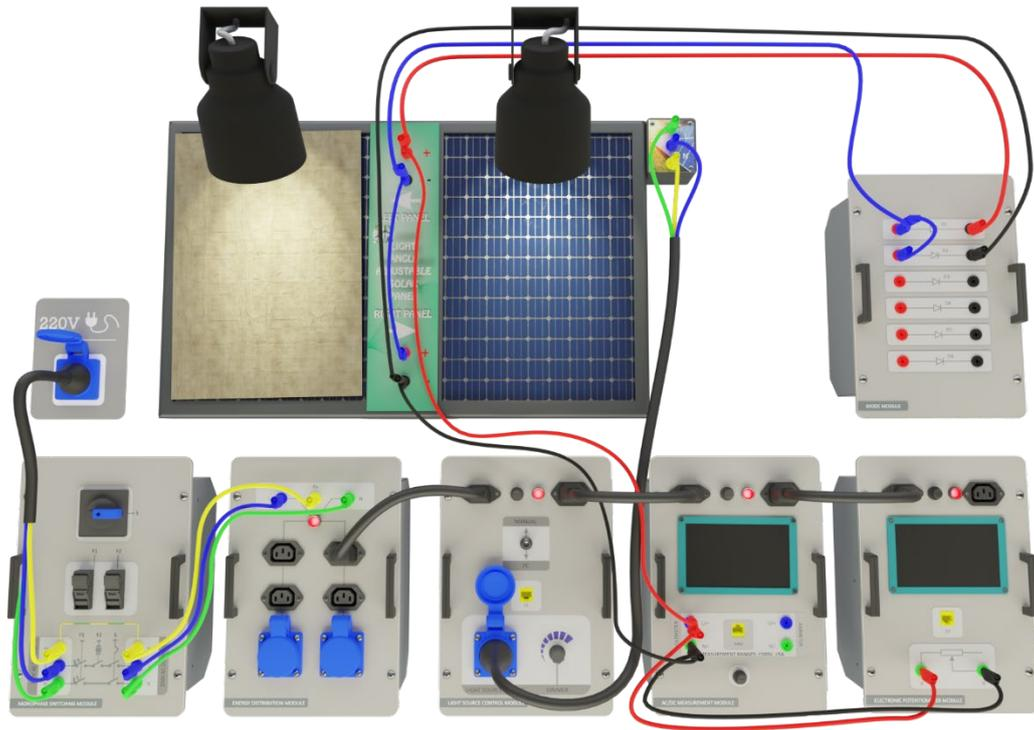

Figure-48. Installation Image of Examination of Effect of Bypass Diode in Photovoltaic Panels (with Shadow Effect)
6. Afterward, cover the other panel as shown in Figure-48. Record the values displayed by the voltmeter and ammeter in the DM Module in Table-41.